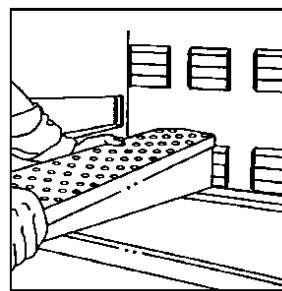

Figure 6
13. Install finger in the oven by sliding it over the plenum flange and setting the front bracket. (See Figures 6 and 7.) BE SURE THAT THE FINGER SITS SQUARELY OVER THE PLENUM FLANGES AND THE HOLES POINT IN THE PROPER DIRECTION. Top fingers point down, bottom fingers point up. (See Figure 8.)
14. Repeat step 11 until all ten (10) fingers are installed.